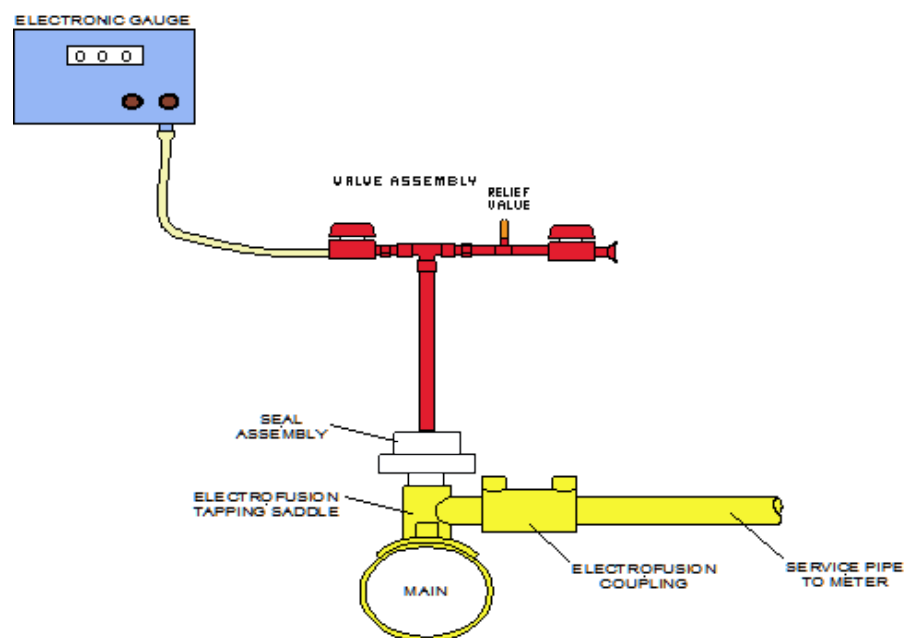

Figure 105 - Example IP test setup for PE pipe
3. The test equipment should be installed on the mains connection. See Figure 105.